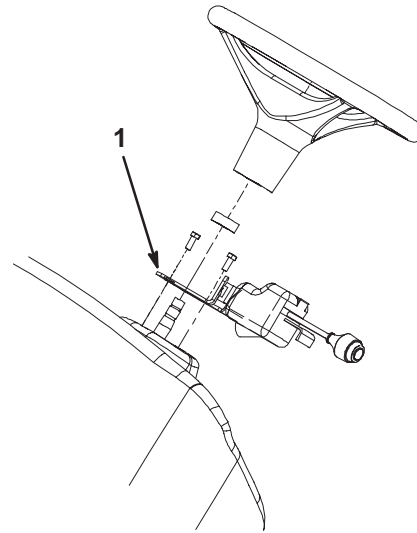

Figure 6
- 1. Dash mounting screws (3)
13. Mount the signal controller bracket to the steering column with two M6 x 16 screws (Fig. 6).